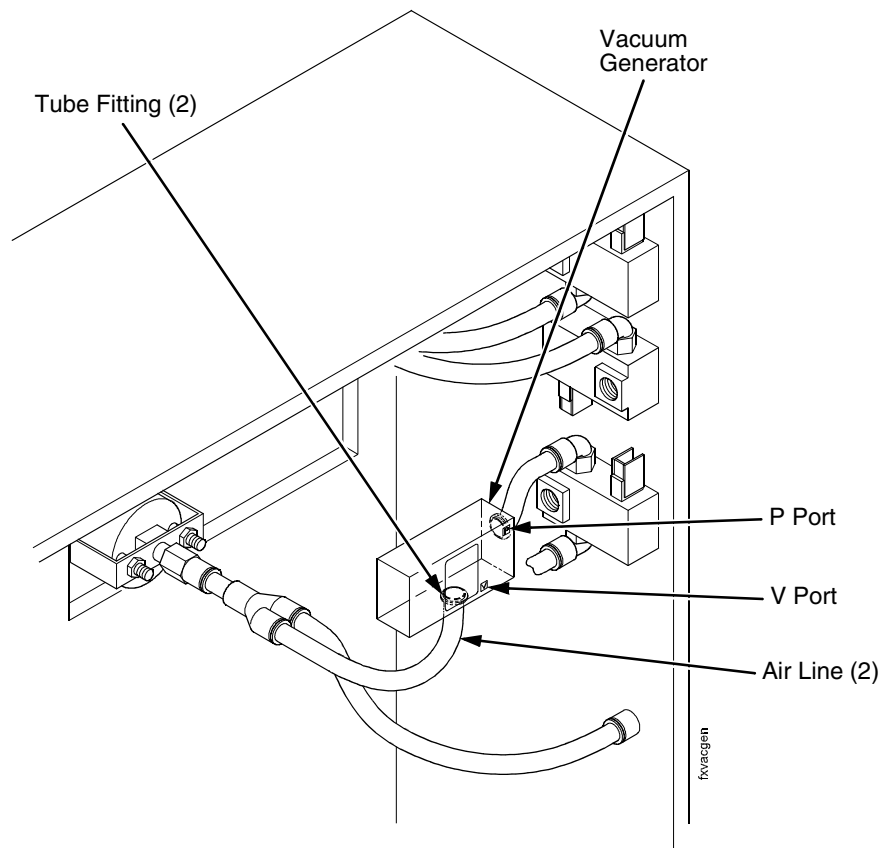

Figure 17. Vacuum Generator
1. Locate the vacuum generator inside the electrical enclosure, on the applicator side of the SLPA (see Figure 17). The vacuum generator housing will mark the pressure connection with a P and the vacuum connection with a V. Label the respective tubes before disconnecting them, to ensure proper reassembly.